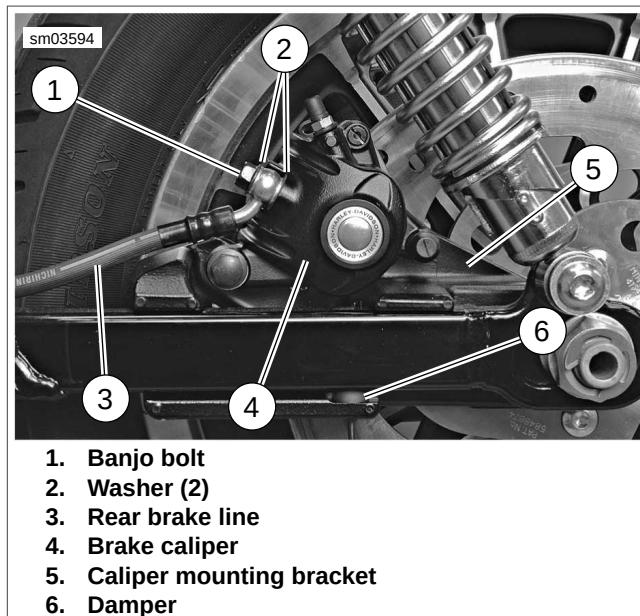

Figure 2-131. Rear Caliper Assembly
4. See Figure 2-131. Position a **new** washer (2) on each side of hydraulic brake line (3) banjo fitting. Insert banjo bolt (1) through washers and fitting. Thread bolt into caliper housing. Tighten to 20-25 ft-lbs (27.1-33.9 Nm).